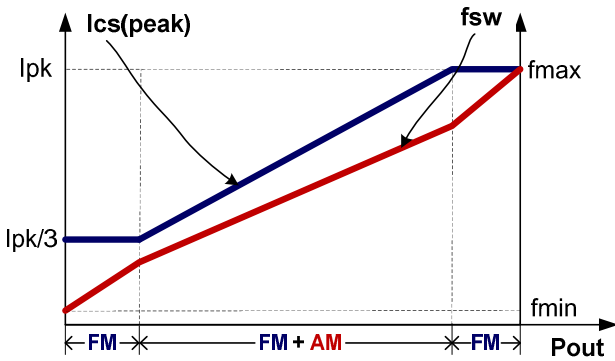

Fig.4
To meet the tight requirement of averaged system efficiency and no load power consumption, a hybrid of frequency modulation (FM) and amplitude modulation (AM) is adopted in DP1805 which is shown in the Fig 4.